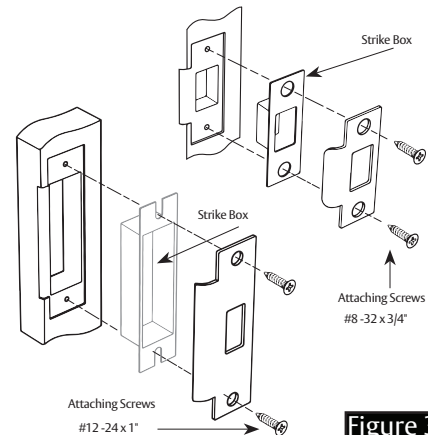

Figure 3
4. Install the strike (See Figure 3)